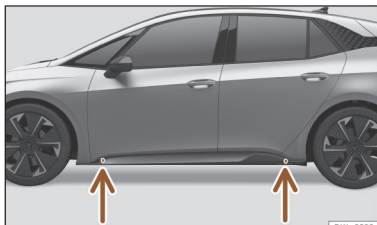

Fig. 196 Jack position points.
- Look on the crossbar for the mark of the jack support point (sunken area) closest to the wheel to be changed >>> Fig. 196.